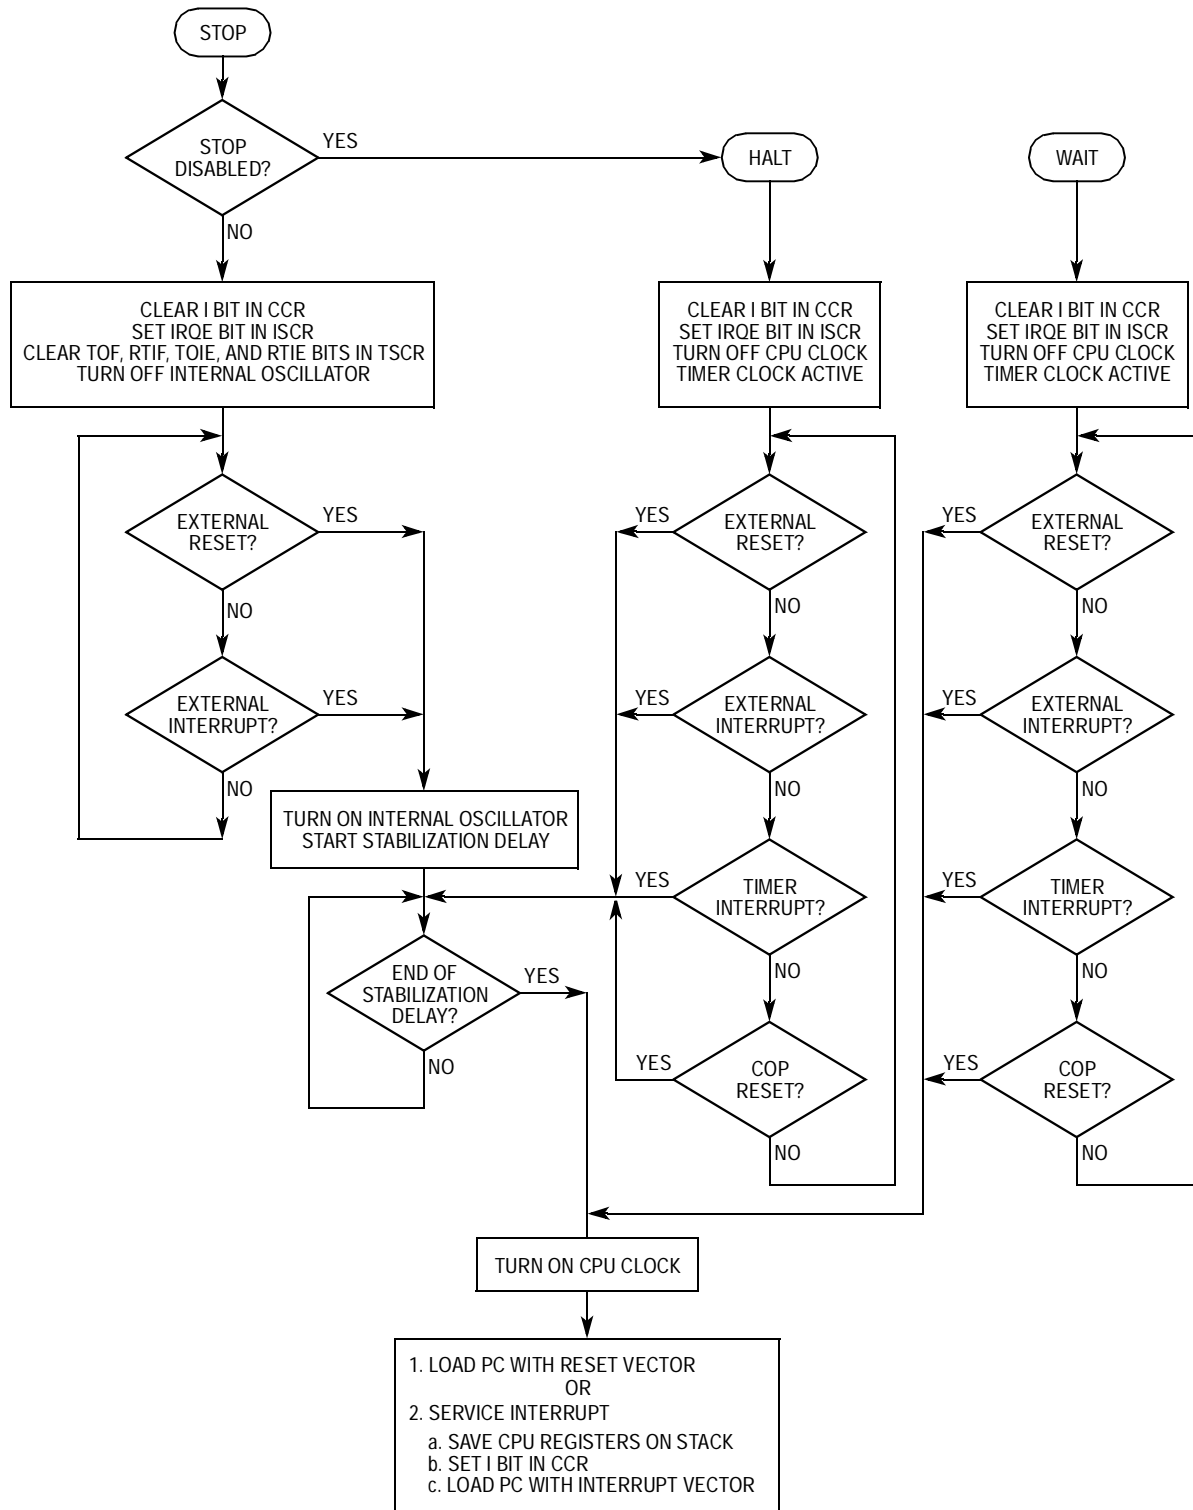

Figure 6-1. Stop/Wait/Halt Flowchart
**Figure 6-1** shows the sequence of events in stop, wait, and halt modes.